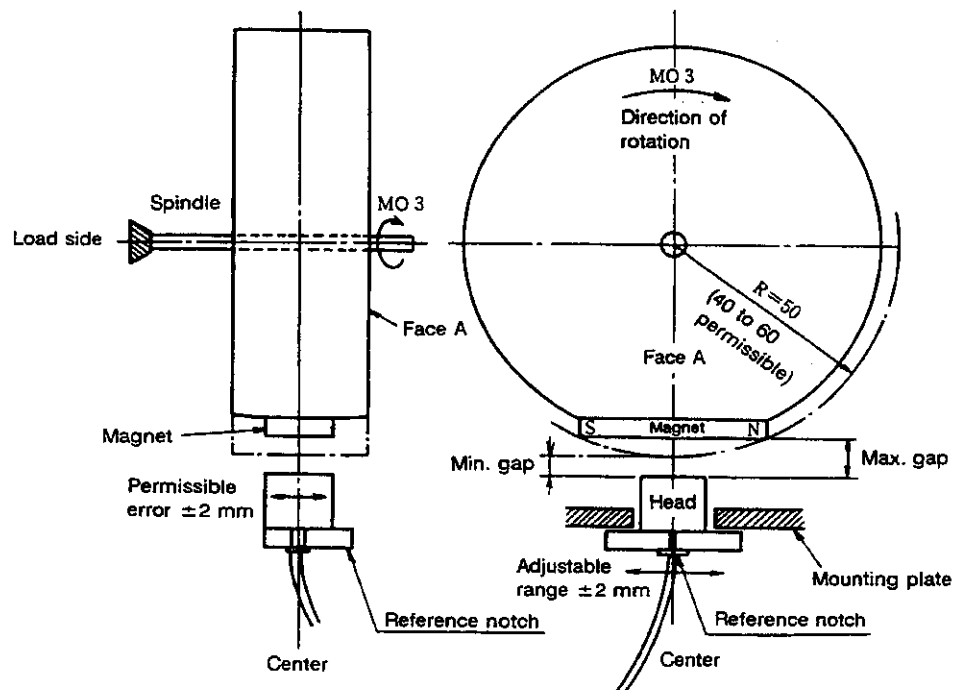

Fig. 6-2 Sensor Mounting Drawing
- (1) Install the sensor head in accordance with 6.1.2 **CASE 1** to **CASE 7**.
- (2) Align the center line of the sensor head with the center of magnet. (Fig. 6-2)
- (3) The gap between the magnet and the sensor head are listed in Table 1 to Table 3.